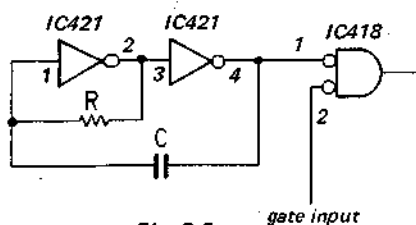

Fig. 2-9
1. Fig. 2-9 shows a controllable oscillator.